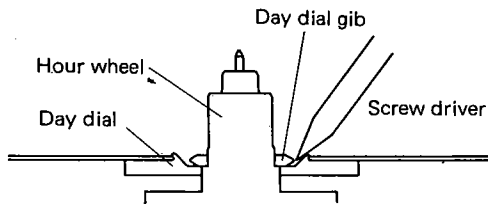

Fig. 2
- If you insert the small screw driver through the crevice as shown in Fig. 2, and pry the gib up inch by inch, the day dial gib will be removed. Be careful not to scratch the hour wheel when removing.
(3) How to install the yoke